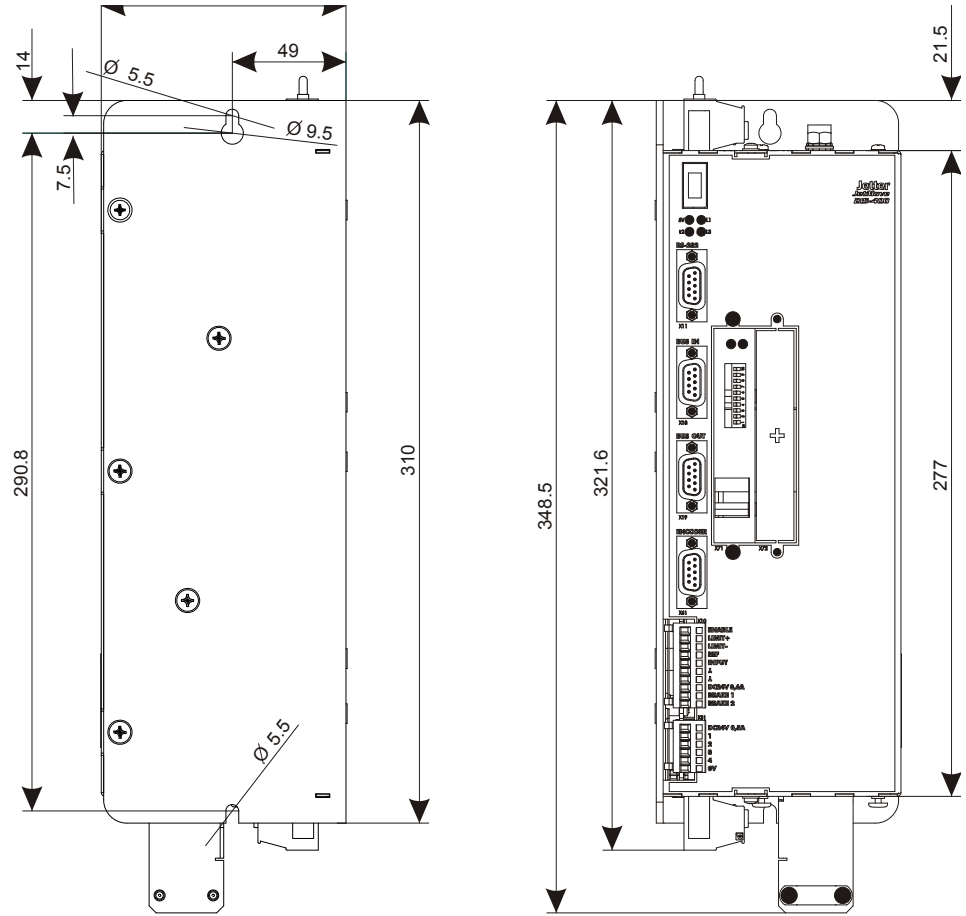

Fig. 4: Rear and front view of the JetMove 215B-480 enclosure with mounting holes
-  Please mark on the panel two positions for the fastening screw threads of the JetMove 215B-480 (see fig. 4, page 25).
| Mounting position | Vertical (refer to Fig. 4, page 25) For sufficient air flow there has to be a clearance of 100 mm above and below the device. | |